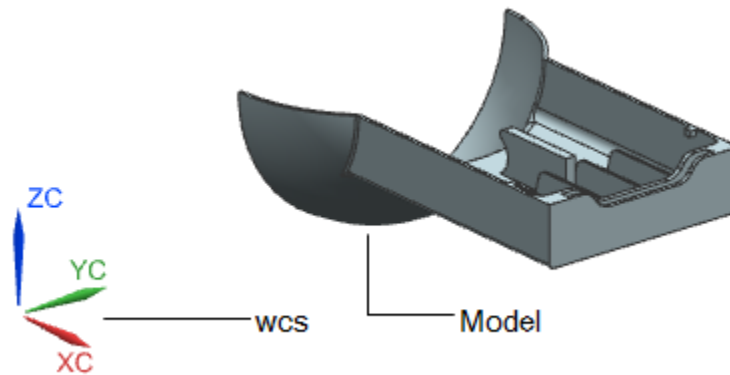

Figure 16-94 The WCS (work coordinate system)
2. Double-click on the WCS, refer to Figure 16-94; you are prompted to drag a handle or select a handle. Select the handle of WCS; the **WCS Dynamics** dialog box is displayed.